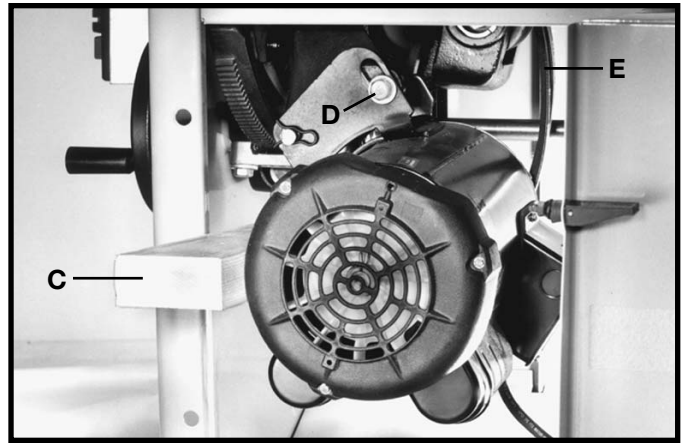
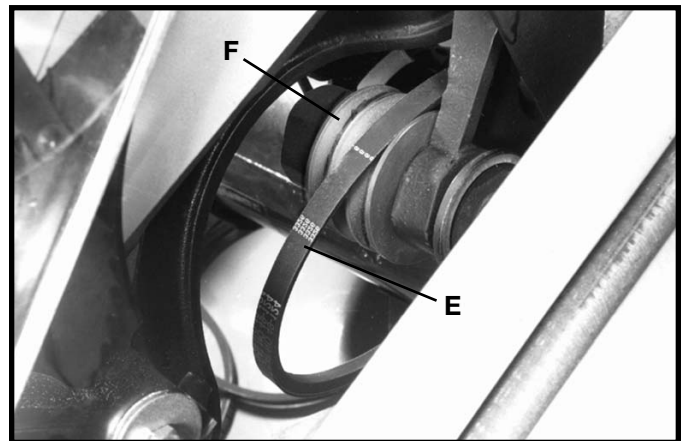

Fig. 125
Fig. 126
3. Place a block of wood (C) Fig. 125, between the motor and saw cabinet as shown. NOTE: It may be necessary to raise the saw arbor in order to insert the wooden block. Lower the saw arbor until the motor contacts the wood.
4. Loosen bolt (D) Fig. 125, and continue to lower the saw arbor until all tension is removed from the belts (E). Tighten bolt (D).
5. Raise the saw arbor slightly and remove the block of wood (C) Fig. 125.
6. Lower the saw arbor. Remove the belts (E) Fig. 125, one at a time from the motor pulley.
7. Remove the belts (E) Fig. 126, one at a time from the arbor pulley (F).
8. Assemble the three new belts, one at a time in the grooves of the arbor pulley (F) Fig. 126, and onto the motor pulley.
9. When the new belts are assembled on the arbor pulley (F) Fig. 126 and the motor pulley, loosen screw (D) Fig. 125, and carefully let the motor rest on the belts.
10. Correct belt tension is when there is approximately 1/4 deflection in the center span of the pulleys, using light finger pressure. After tension is applied, tighten screw (D) Fig. 125.